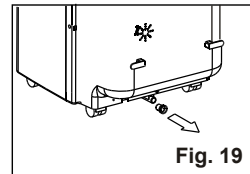

Fig. 19
1. Remove the rubber plug from the bottom drain tray (Fig. 19). Attach an appropriate drain hose to remove any water that has accumulated in the tray. When drain tray is completely dry, replace the rubber drain plug.